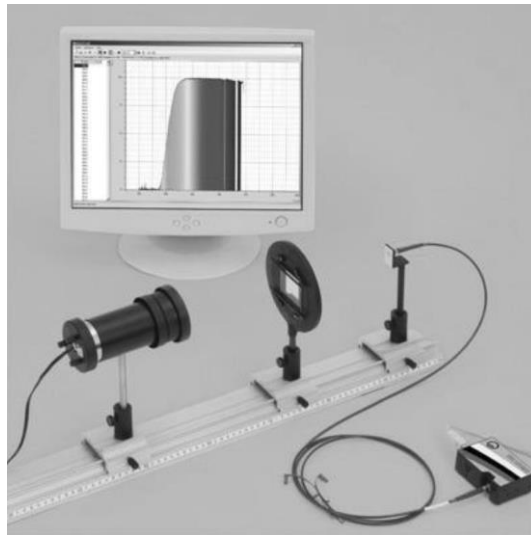

Fig. 42.4. Experimental setup
1. Place the lamp in the housing, but do not yet make a connection to the 6 V transformer output (Fig. 42.4).